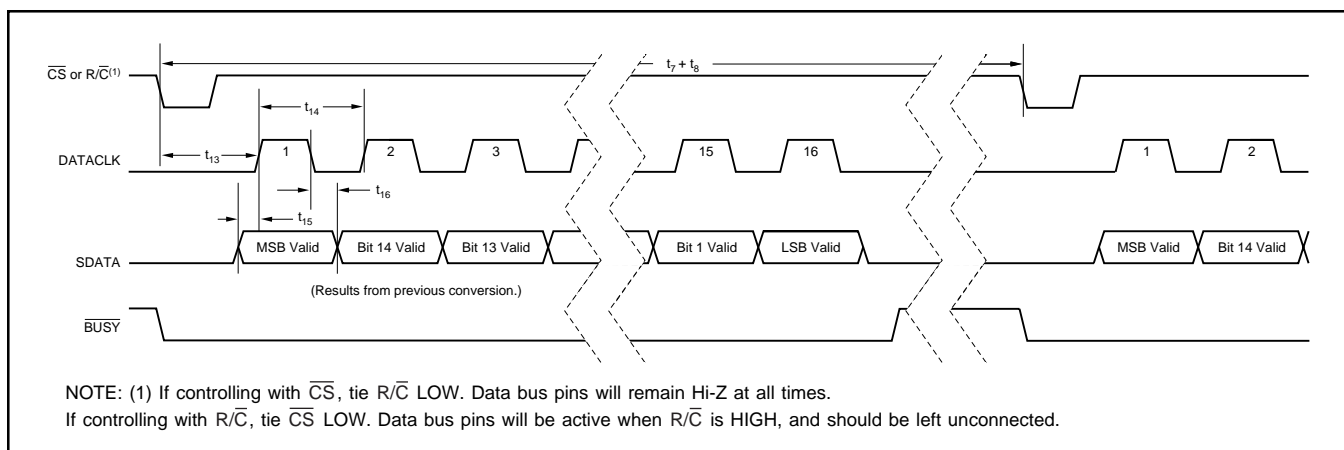

FIGURE 4. Serial Data Timing Using Internal Data Clock (TAG tied LOW).
NOTE: (1) See Figures 4, 5, and 6 for constraints on data valid from conversion 'n – 1'.
To use the internal data clock, tie EXT/INT (pin 8) LOW. The combination of R/C (pin 22) and CS (pin 23) LOW will initiate conversion 'n' and activate the internal data clock (typically 900kHz clock rate). The ADS7807 will output 16 bits of valid data, MSB first, from conversion 'n-1' on SDATA (pin 19), synchronized to 16 clock pulses output on DATACLK (pin 18). The data will be valid on both the rising and falling edges of the internal data clock. The rising edge of BUSY (pin 24) can be used to latch the data. After the 16th clock pulse, DATACLK will remain LOW until the next conversion is initiated, while SDATA will go to whatever logic level was input on TAG (pin 20) during the first clock pulse. Refer to Table V and Figure 4.